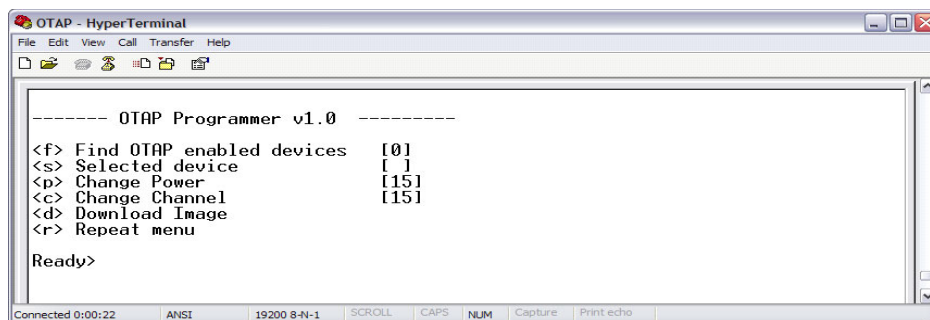

Figure 57. OTAP Menu in HyperTerminal Window
4. Press Button 1 on the OTAP Programmer board to select the UART mode. Wait for the menu to appear on the HyperTerminal window as shown in Figure 57.